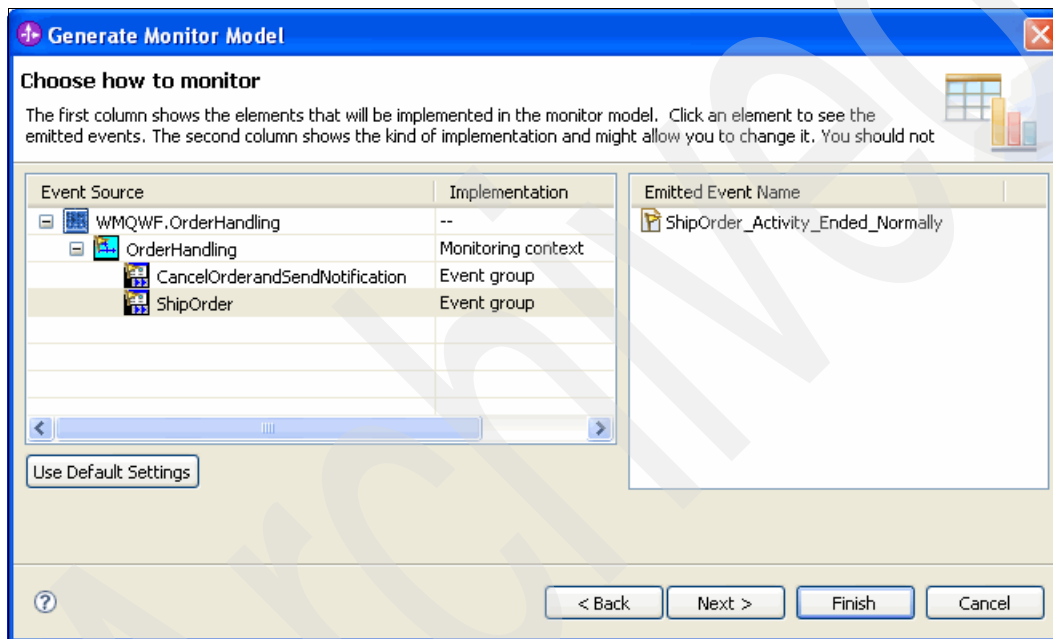

Figure 8-53 Changing the activities' implementation to be an event group
8. In the Generate Monitor Model – Choose how to monitor window (Figure 8-53), for CancelOrderandSendNotification and ShipOrder, change Implementation to **Event group**.